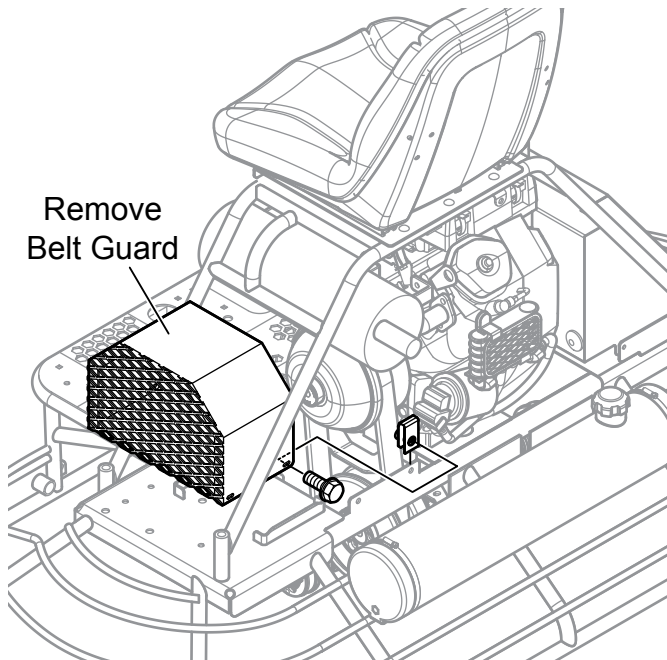

Figure 5. Remove Belt Guard
- Remove the 4 mounting bolts and U-nuts that secure the belt guard to the frame (Figure 5). Discard mounting bolts and U-nuts as these will not be used in the reassembly.